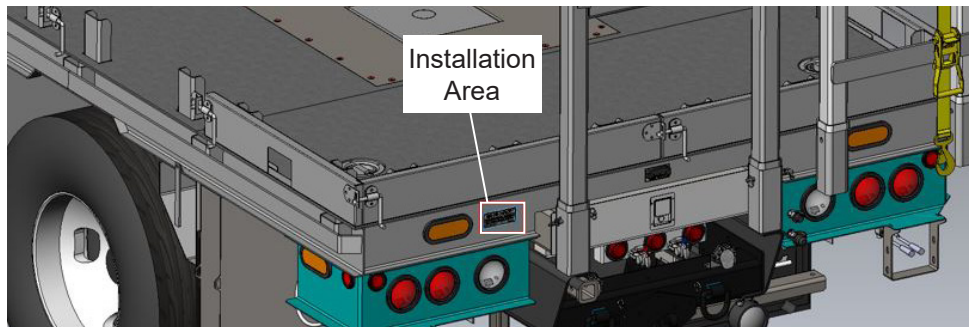

Figure 1 — Placard Installation
3. On the street side rear of the vehicle, identify the installation area (refer to Figure 1).